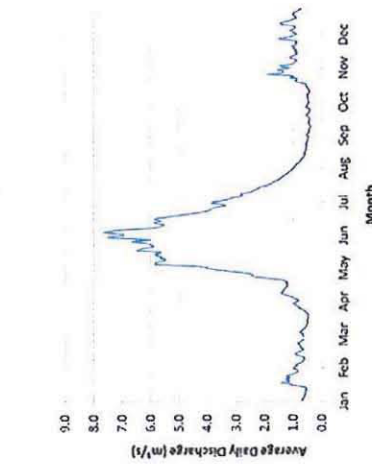

Figure 1. Average daily flow estimate for Coquihalla 2, data was taken from WSC station 08MF062 - Coquihalla River below Needo Creek, 1965 - 2008.
- Low flow conditions are ideal for conducting in-stream works since diversion of flow and other dewatering issues will be minimized. Average daily flows from 1965 to 2008 for WSC station 08MF062 - Coquihalla River below Needo Creek were generated based on relative drainage basin areas (WSC Station basin area = 85.5 km², Coquihalla 2 basin area = 43.7 km²) and presented in Figure 1. The data illustrate the relative annual distribution of flows expected to be present at the Coquihalla 2 crossing. It is noteworthy that flow at Coquihalla 2 typically flows subsurface from early August to mid October.